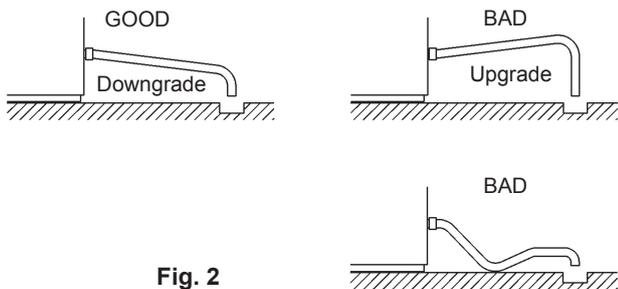

Fig. 2
* To prevent a backflow into the Storage Bin, the outlet hose must be laid as shown in Fig. 2.